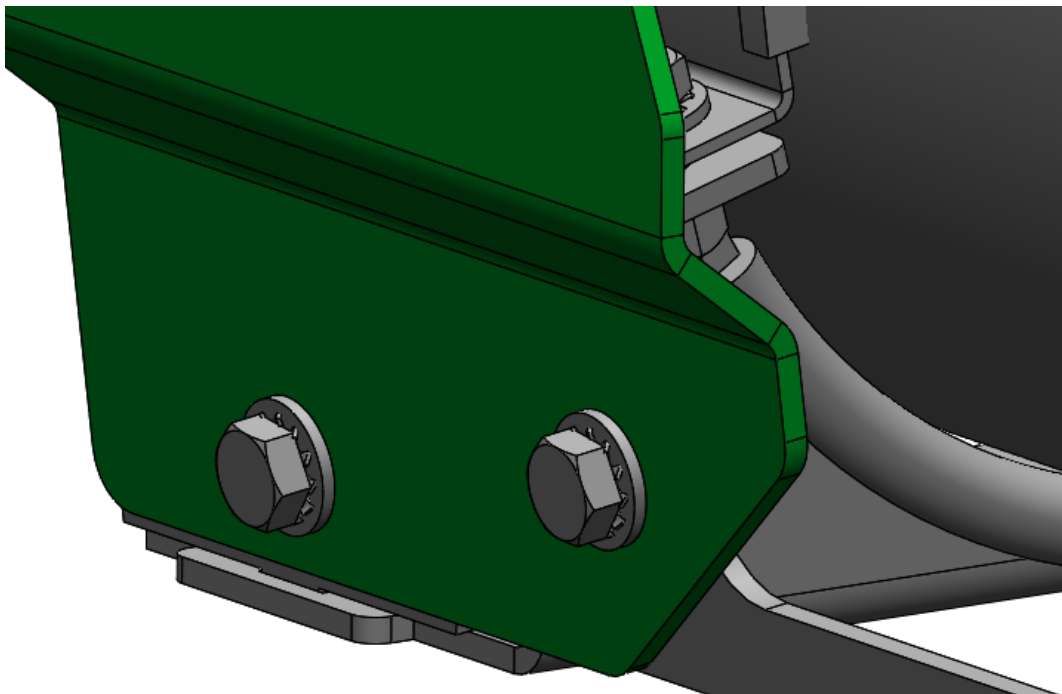

Figure 26 - RAPTOR-206 Installed on Tank Bracket
10.7.2. Using #4, #8, #23, install RAPTOR-206 and fully tighten hardware, as shown in Figure 26 below.